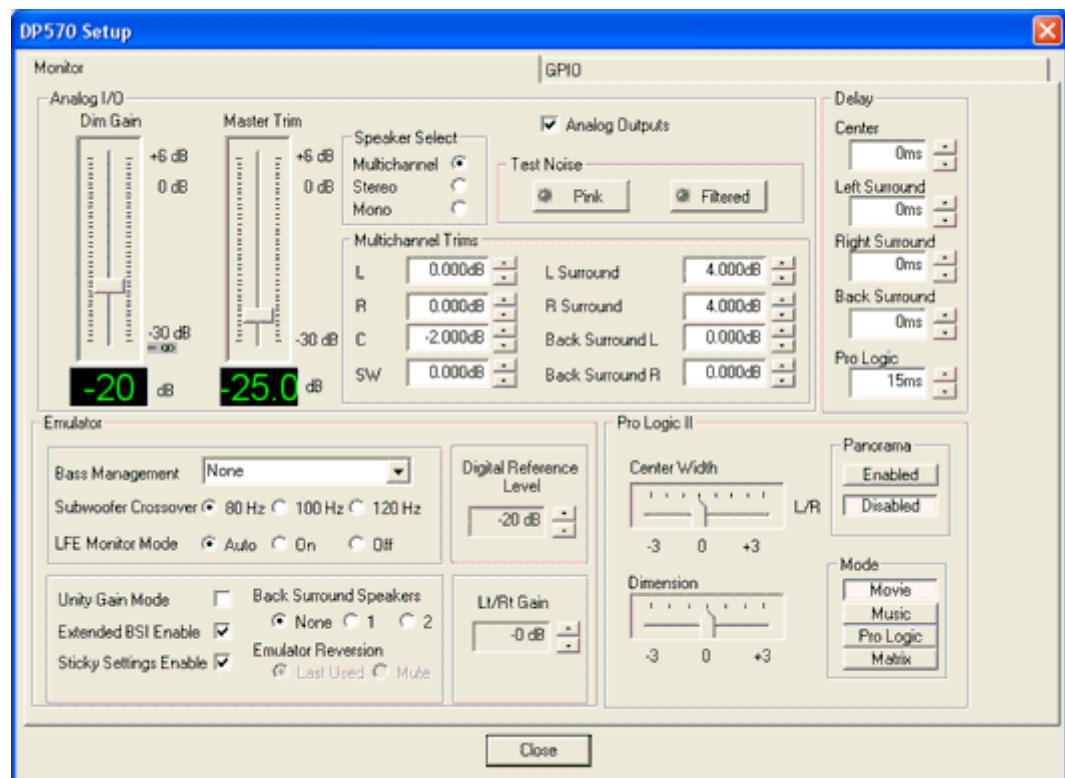

Figure 2-1 Monitor Configuration Tab
The DP570 alerts you that it is opening the device and, when communication is established, displays the main application screen shown in Figure 2-1.
1. Click **Setup** on the application button bar. The system opens the **Monitor** tab shown in Figure 2-1.